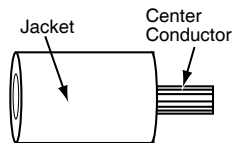

Fig. 3
5. Rotate strip tool clockwise with forward pressure until tool turns easily. This indicates that the first cut is completed, and the center conductor is exposed. (Fig. 3) Remove the strip tool.